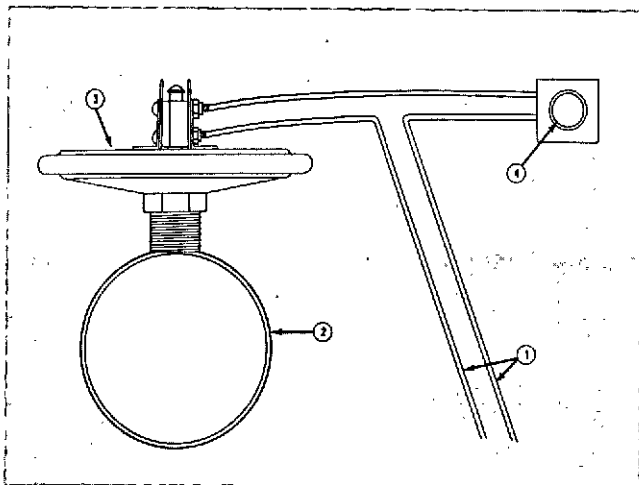

Fig. 5-14, N21905. Vacuum switch for air inlet restriction check
1. Electric source (1, Fig. 5-14).